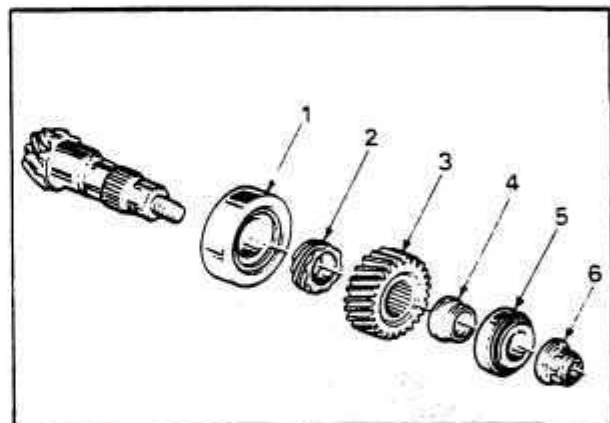

Fig. 75 FINAL DRIVE PINION ASSEMBLY
DIFFERENTIAL PINION GEAR — Fig. 75
- e. If the reading is not within specifications, adjust the pre-load by loosening the pinion nut, remove the pinion gear assembly from the case, and change the thickness of the adjusting sleeve. Fig. 75.